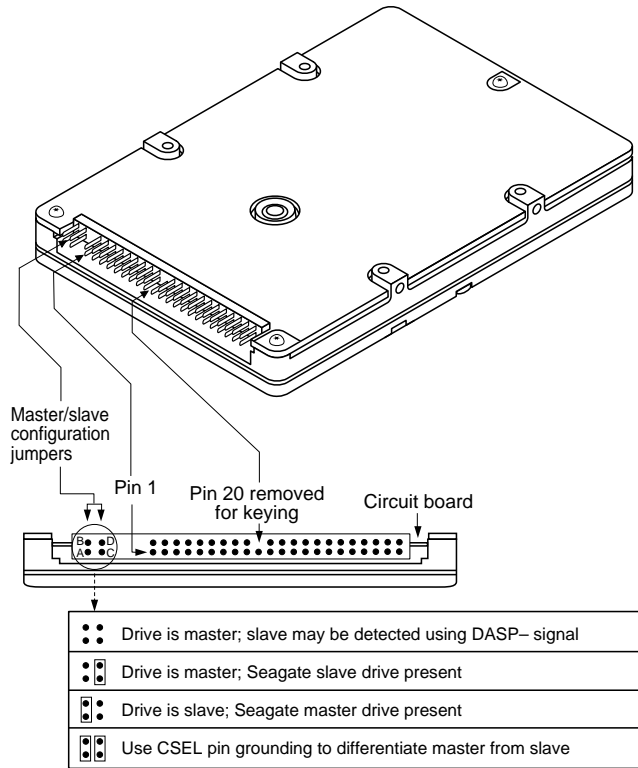

Figure 1. ATA interface cable connector and master/slave configuration jumpers
Install master/slave jumpers. In a two-drive system, you need to designate one drive as the master, or drive 0, and the other drive as the slave, or drive 1. In a one-drive system, configure the drive as a master. To configure the drive as a master or slave, install the master/slave jumpers as shown in Figure 1.
- 3. Connect the 44-pin interface/power cable.** Connect the 44-pin interface/power cable. Match pin 1 of the interface cable to pin 1 of the interface connector on the drive and on the computer. Pin 1 is usually denoted by a stripe along one edge of the ribbon cable. The location of pin 1 on the drive interface connector is shown in Figure 1 on page 3. The cable should be no longer than 18 inches.
- **Check all cables.** Make sure all cables are securely connected. Printed circuit and ribbon cables are both quite fragile. Make sure they are not crimped or damaged in any way. Having extra cables on hand for troubleshooting saves time and frustration. Most ribbon cables have a stripe down one side to designate the pin 1 location. Make sure pin 1 on the interface cable connector is connected to pin 1 on the drive interface connector and pin 1 on the host connector. Refer to Figure 1 on page 3 for the location of pin 1 on the drive interface connector.